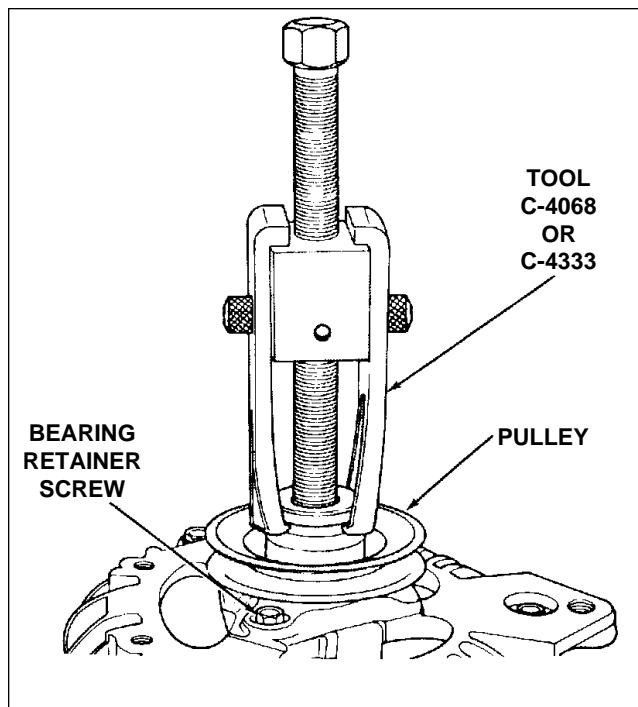

Figure 24-27. Removal of Chrysler Alternator Pulley
- Remove pulley with tool C-4068. (Refer to Figure 24-27.)